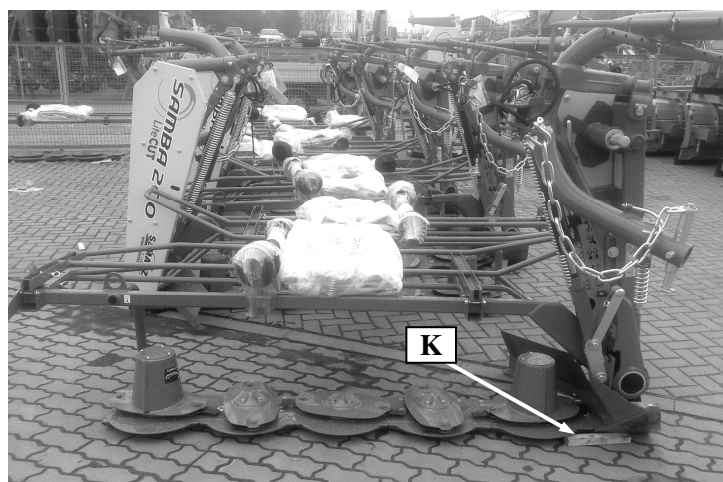

Fig. 26. Samba mower in vertical standstill position
When storing SAMBA mowers with hitch set vertically protect the cutter bar by means of wedge (K) (Fig. 26) against possible loss in stability, and in consequence mower's tipover.